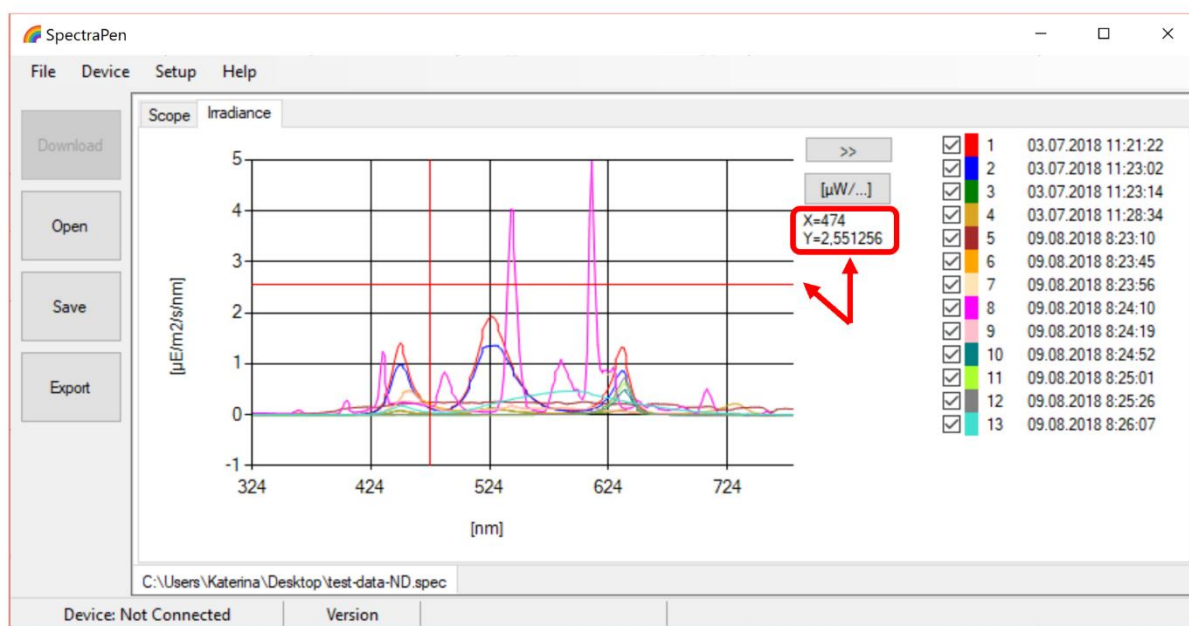

Fig. 30 Marker feature.
8. In the graph **marker** feature is available, which enables display of the numeric values for wavelength and light irradiance for the selected wavelength of the scan (Fig. 30). Use the mouse to select the given point. In top right corner of the graph (red rectangle) is displayed exact value for the selected point on the x-axis and y-axis.